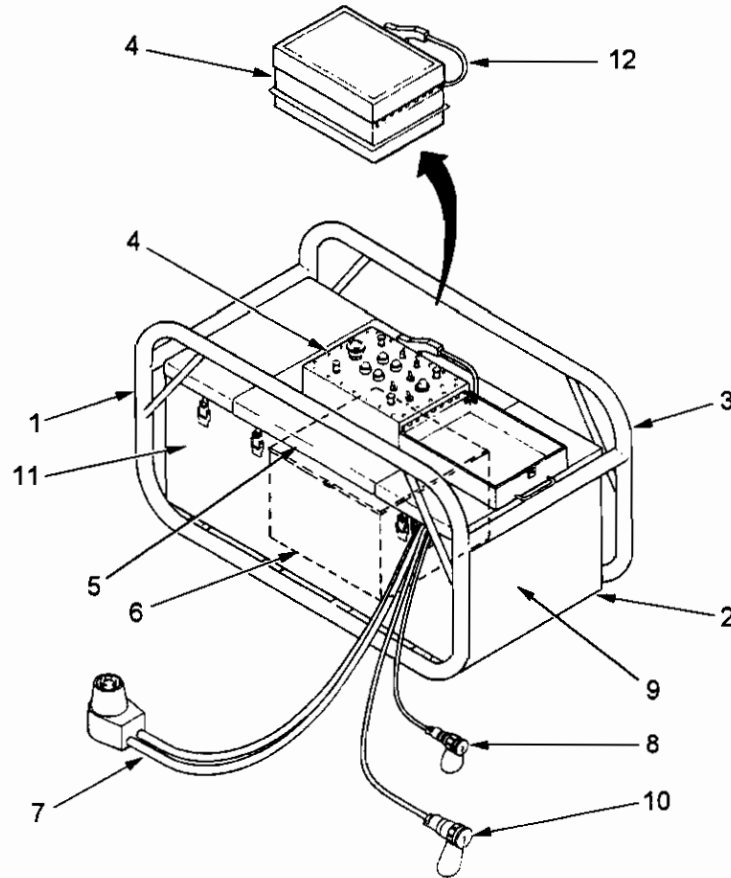

Figure 1-5. Accessory Module
The accessory module (1), figure 1-5, houses a three compartment chest (2) in a 1.5 -inch tubular frame (3). A system control box (4) is located on top of the center compartment (5). The control box (4) is easily removable as a unit for maintenance. The system battery (6) is located inside the center compartment (5). A two conductor battery power cable (7) with an auxiliary pump leg (8) is normally connected to the battery and stowed in the right-hand compartment of the chest (9). A multi-conductor control cable (10) is normally connected to the control box (4) and also stowed in the right-hand compartment (9) of the chest. For more detailed information refer to TM 10-4320-351-14. The left-hand storage compartment (11) is used to stow the engine air filter assembly, spare flexible coupling and manual start rope during transport. A ground cable (12) is attached to a stud on the rear of the control box (4).